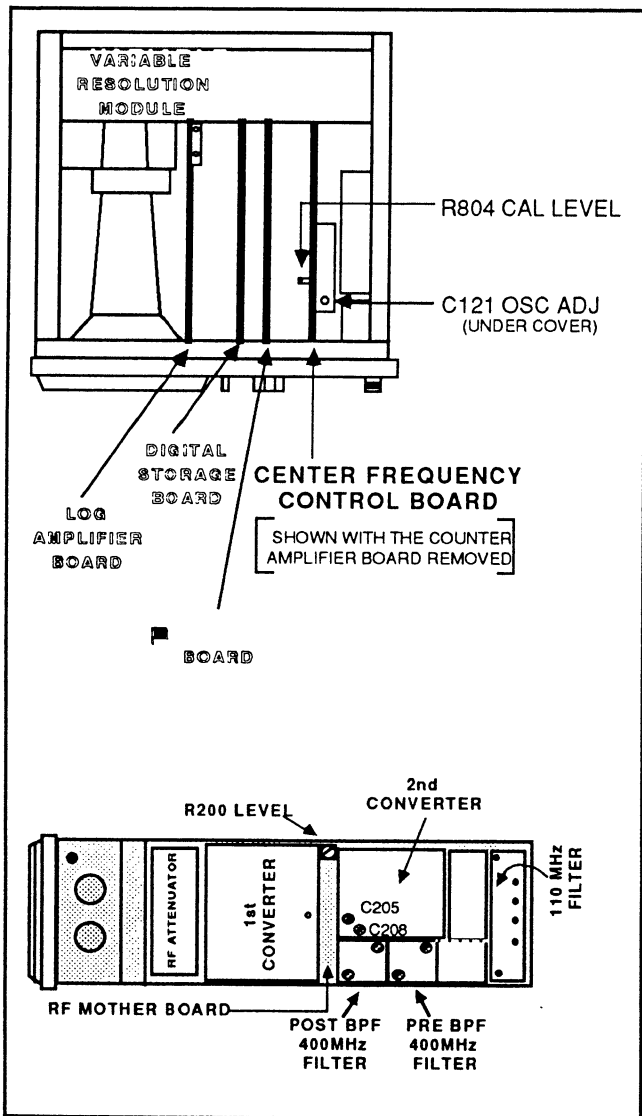

Figure 4-4. Calibrator and IF Gain adjustment locations.
d. Enable the calibrator signal by pressing INPUT MENU/#9 [CAL SIG @ 100MHZ -30DBM (ON)].
e. Adjust R804 (Cal Level) on the Center Frequency Control board to match the calibrator level to the level of the saved -30 dBm signal. See Figure 4-4.
g. Adjust R200 (Level) on the RF Mother board to set the calibrator signal at full screen. See Figure 4-4.